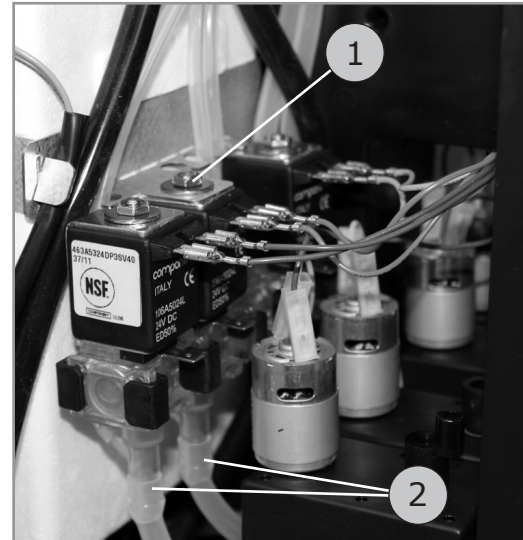

Figure 35
5. Loosen the hoses (2, figure 35) from the valve outlets.
6. Remove the support for the valve packed by loosening the nut (1).